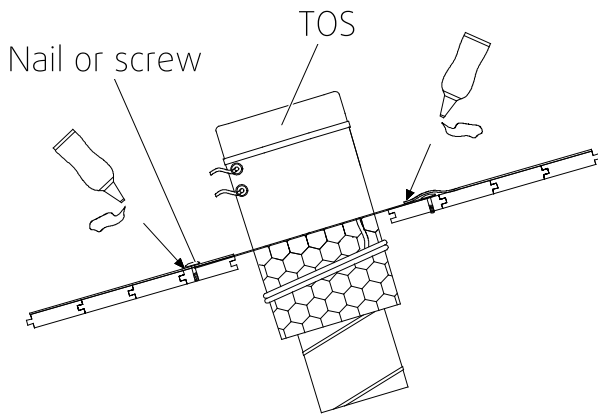

Fig. 8
2. Place the sheet metal of the covering plate under the edge of the roofing felt at the upper edge and along the sides, and on top of the roofing felt at the lower edge, figure 8.